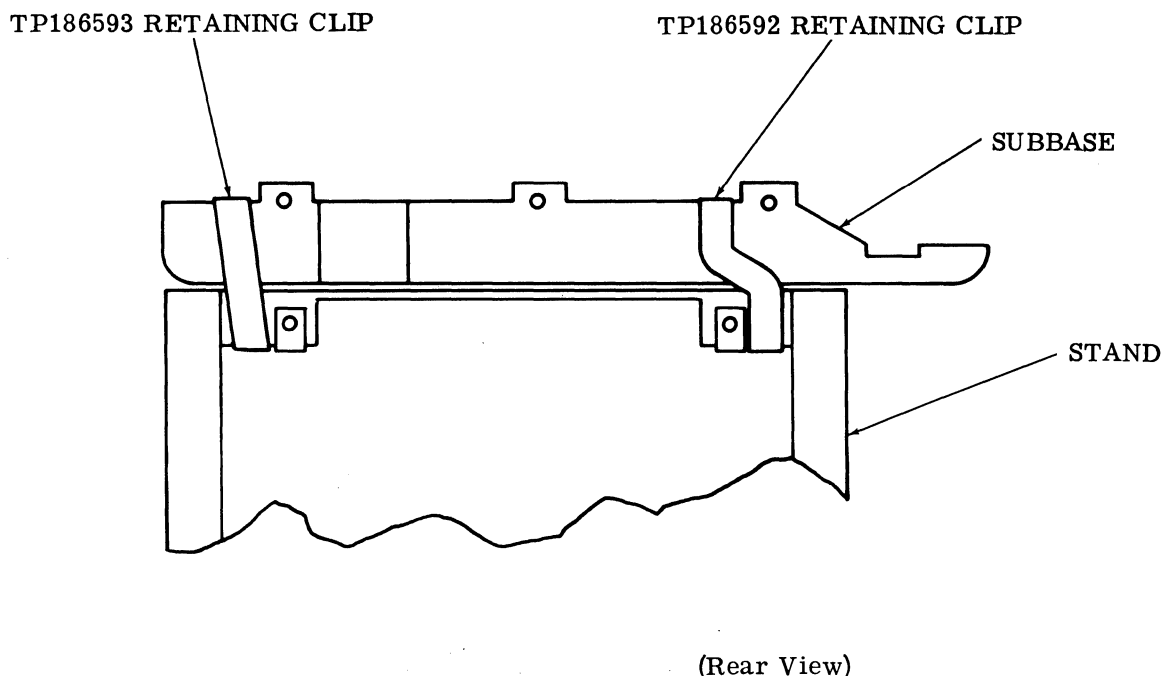

Figure 4 - Installation of Retaining Clips to Subbase and Stand
2.03 Place the subbase and typing unit on top of the stand so that its back edges and sides line up with the back edges and sides of the stand. Install the two retaining clips, included in the hardware bag, on the base at the rear (one each end) and snap them in place on the stand. Refer to Figure 4.